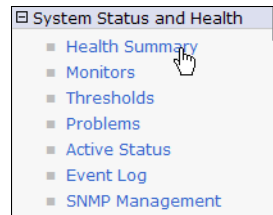

Figure 6-65 Viewing the dashboard - 1
- To view the dashboard, expand **System Status and Health**, and then click **Health Summary** (Figure 6-65).